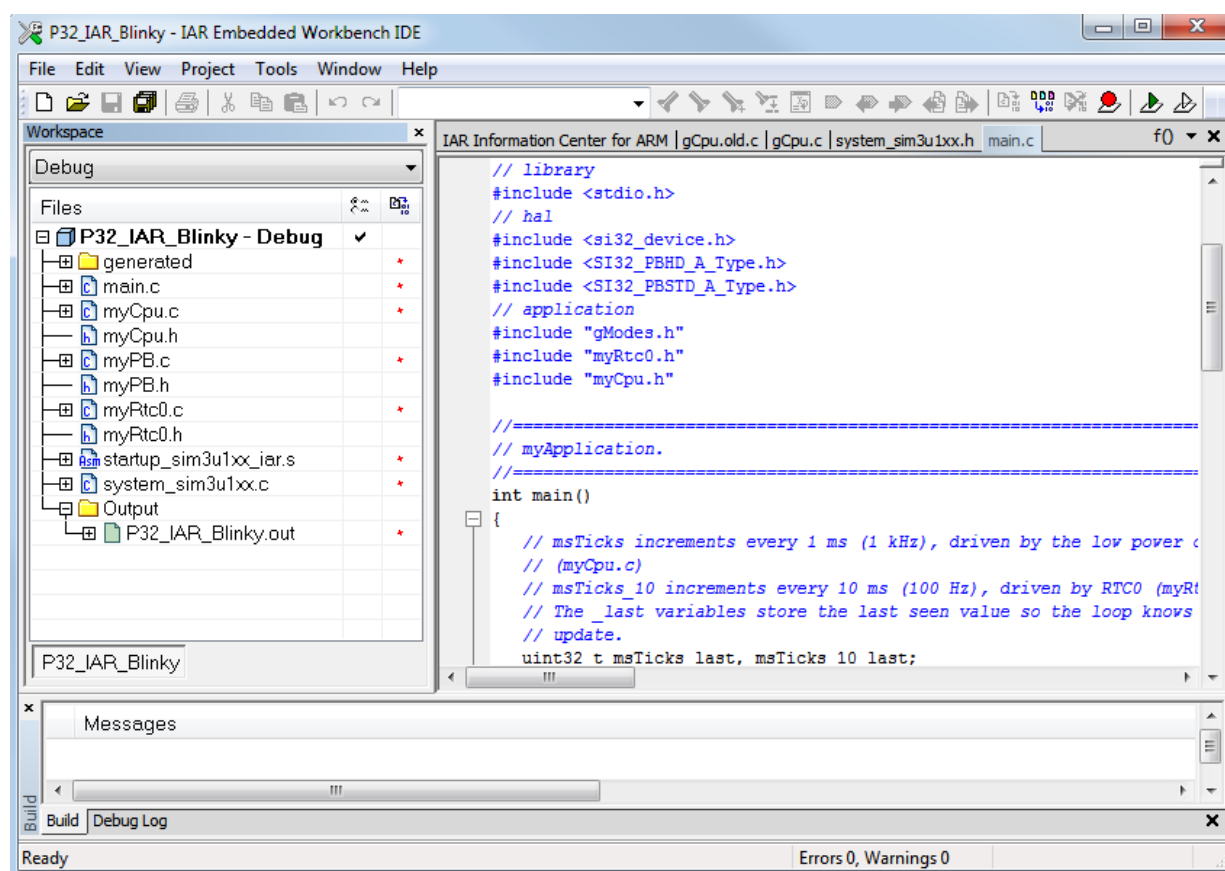

Figure 18. IAR Blinky Example
6. Add **system_sim3u1xx.c** and **system_sim3u1xx.h** to the project from the SDK (default directory is **C:\SiLabs\32bit\si32-x.y.z\si32Hal\sim3u1xx**). The IAR workspace should look as shown in Figure 18.